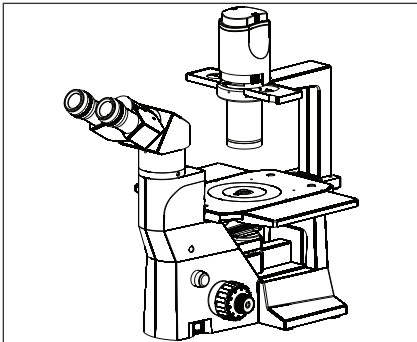

Fig. 1
2. To avoid potential electrical hazards when replacing either halogen bulb, turn the microscope main switch to the OFF position and disconnect power cord from wall outlet in advance. Whenever you replace your microscope bulb, allow lamp socket and bulb to cool before touching (Fig.1)